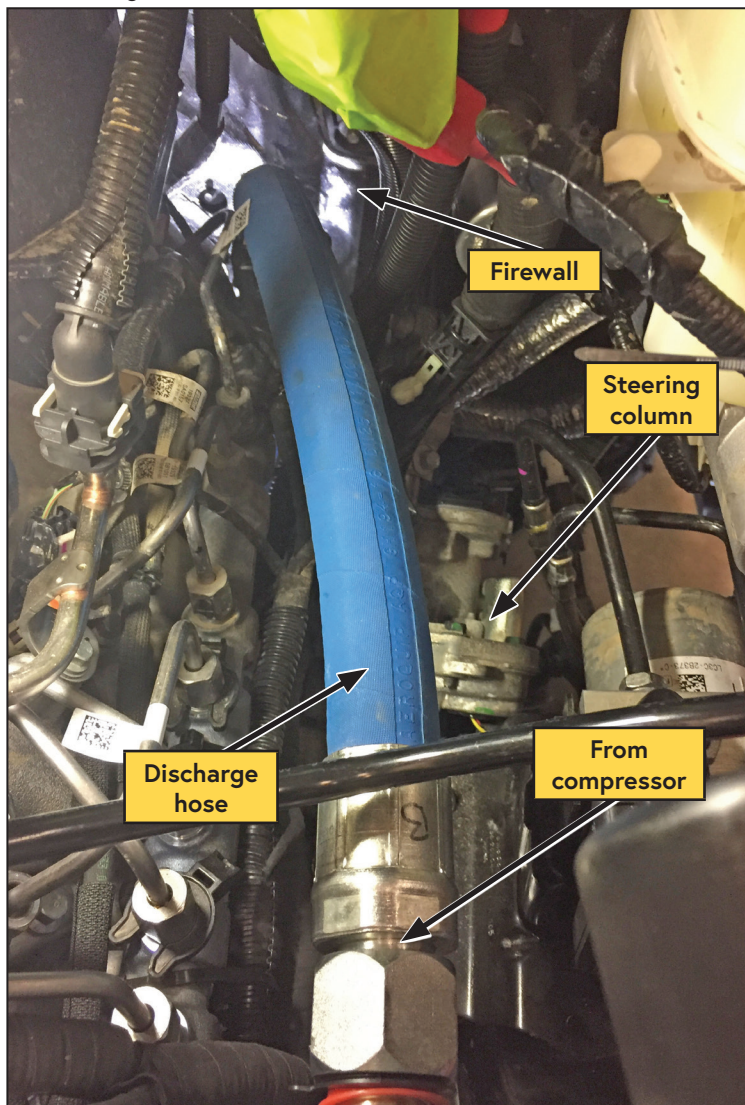

Figure 63 — Routing the hoses
- ☐ Route the discharge hose from the compressor to the firewall, and toward the transmission (Figure 63).